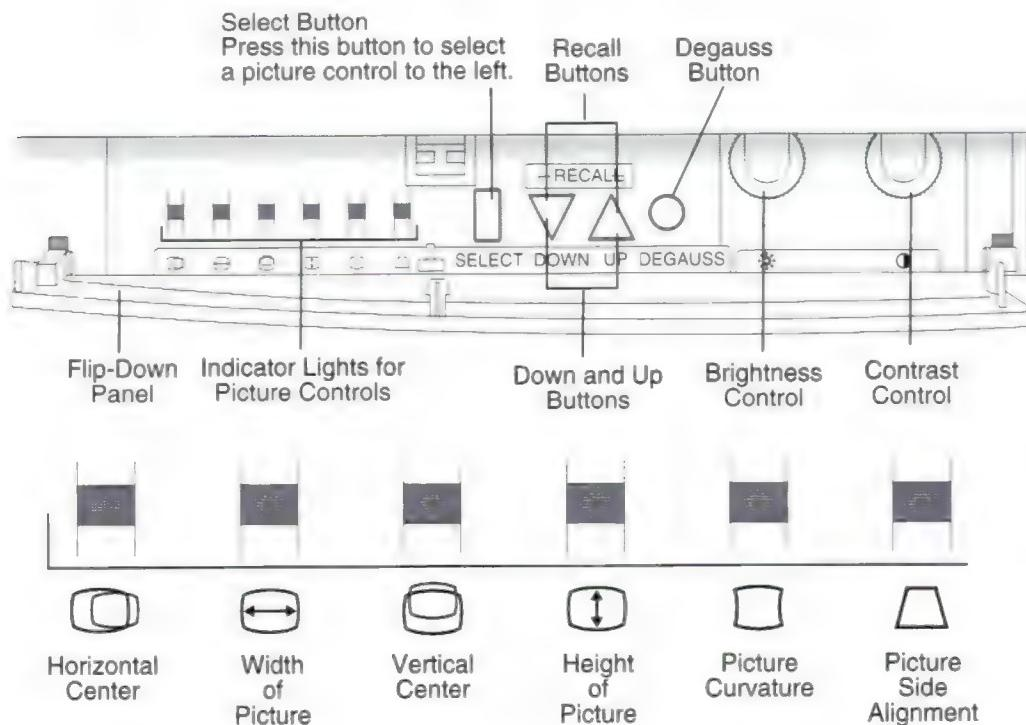

Figure 12. Apple Multiple Scan 1705 User Adjustments
2. Adjust brightness and contrast controls (see Figure 12).
Video is too bright	<ol style="list-style-type: none"> 1. Adjust brightness control. See Figure 12. 2. Adjust Cutoff and White Balance. See Adjustments. 3. Replace video and main deflection boards. Adjust Cutoff and White Balance. See "Cutoff" and "White Balance" in "Adjustments."
1. Press and hold the SELECT button until the indicator light for the horizontal center icon goes on (see Figure 12).
2. Press the DOWN and UP buttons (see Figure 12) to move the center of the picture left or right.
1. Press and hold the SELECT button until the indicator light for the width icon goes on (see Figure 12).
2. Press the DOWN and UP buttons (see Figure 12) to narrow or widen the picture.
1. Press and hold the SELECT button until the indicator light for the vertical center icon goes on (see Figure 12).
2. Press the DOWN and UP buttons (see Figure 12) to move the center of the picture down or up.
1. Press the SELECT button until the indicator light for the height icon goes on (see Figure 12).
2. Press the DOWN and UP buttons (see Figure 12) to decrease or increase the height of the picture.
1. Press and hold the SELECT button until the indicator light for the picture curvature icon goes on (see Figure 12).
2. Press the DOWN and UP buttons (see Figure 12) to change the arch of the picture border.
1. Press and hold the SELECT button until the indicator light for the side alignment icon goes on (see Figure 12).
2. Press the DOWN and UP buttons (see Figure 12) to change the alignment.
Press the DEGAUSS button (see Figure 12) to degauss the monitor.